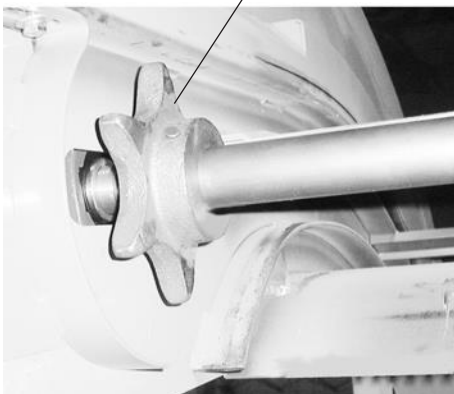

Figure 14. Removing the Sprocket Pin
13. Via the discharge opening, drive out the sprocket pin on the drive end of the headshaft (Figure 14), or remove the key, and slide the sprocket toward the non-drive side of the headshaft.